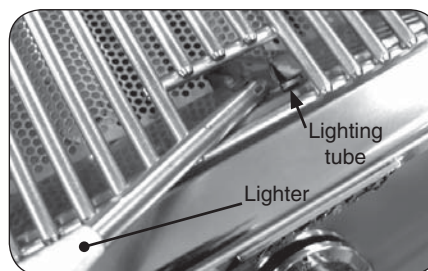

Fig. 13-2 - Manual lighting
2. Insert either a burning long-barrel butane lighter or a burning long-stem match through the cooking grid opening to the top of the lighting tube. (Fig. 13-2). For backburners, hold the flame against the surface of the backburner.
4. If the burner does not light, **immediately depress the knob and turn the valve to OFF**. **WAIT FIVE (5) MINUTES** before repeating steps 2 through 4 of the **MANUAL LIGHTING** instructions.